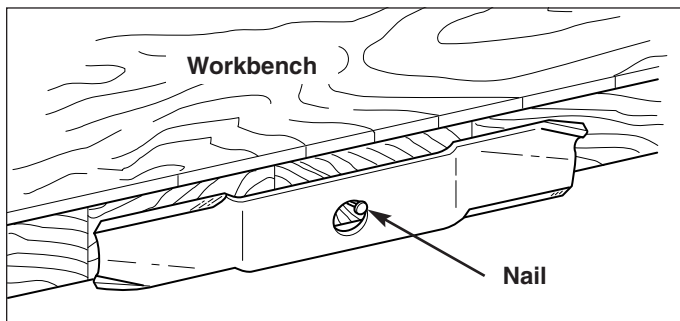
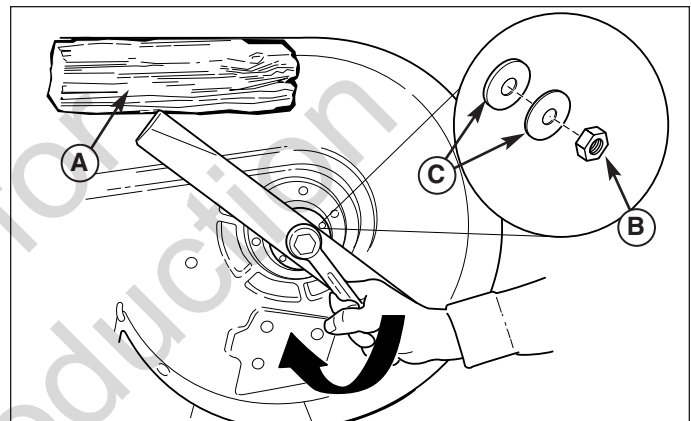
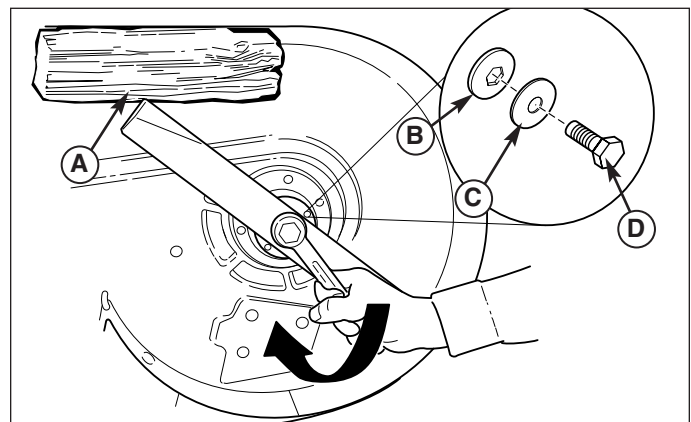

Figure 18. Balancing The Blade
Figure 20. Blade Installation Mowers (38" & 42" Mowers)
Figure 21. Blade Installation Mowers (44" & 50" Mowers)
3. Remove the nut (D, Figure 20), or spring washers (B), and blade. Or remove the capscrew (D, Figure 18), hex washer (B), spring washer (C), and blade.
5. Balance the blade as shown in Figure 18. Center the blade's hole on a nail lubricated with a drop of oil. A balanced blade will remain level.
6. Reinstall the blade (Figures 21) with the tabs pointing up toward the mower deck as shown.
7. Reinstall the large washer (B, Figure 20), spring washers (B) and nut (C). Use a wooden block (A) to prevent blade rotation while tightening the nut (C) to 70-80 ft-lbs (95-108 Nm). Or reinstall the hex washer (B, Figure 21), spring washer (C) and capscrew (D). Use a wooden block (A) to prevent blade rotation while tightening the nut (D) to 45-55 ft-lbs (61-75 Nm).